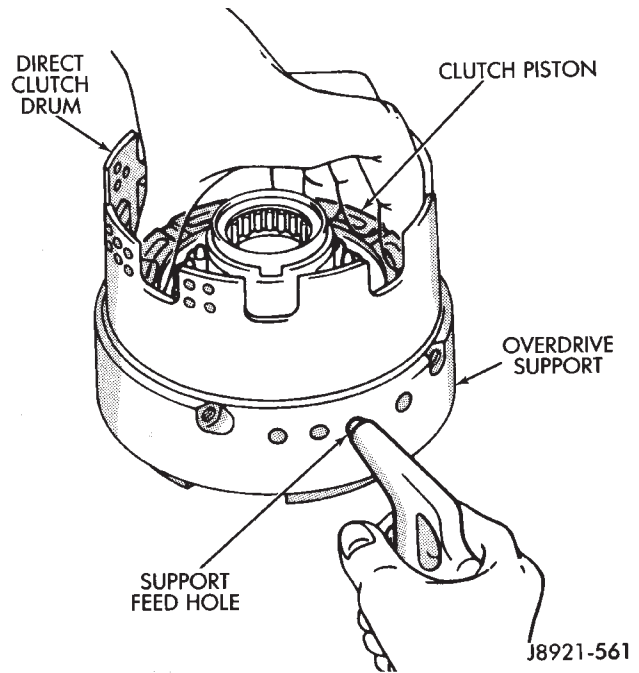

Fig. 7 Removing Direct Clutch Piston
(10) Remove compressor tool and return spring.
(11) Remove clutch piston. Remount clutch on overdrive support (Fig. 7). Apply compressed air through piston feed hole in support to remove piston. Use only enough air to ease piston out.
(12) Remove and discard clutch piston O-rings.